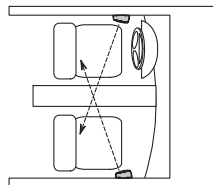

Figure 3
3. Treble is directional in nature. This means that high frequencies are reduced as you move off the tweeter's axis. The angle mounts will allow the P-20ts to be pointed across the car to the listener on the opposite side (as shown in Fig. 3). This will make each listener slightly off-axis to the tweeter that is closer to that listener, which helps to compensate for the fact that the listener is always closer to one tweeter than to the other.